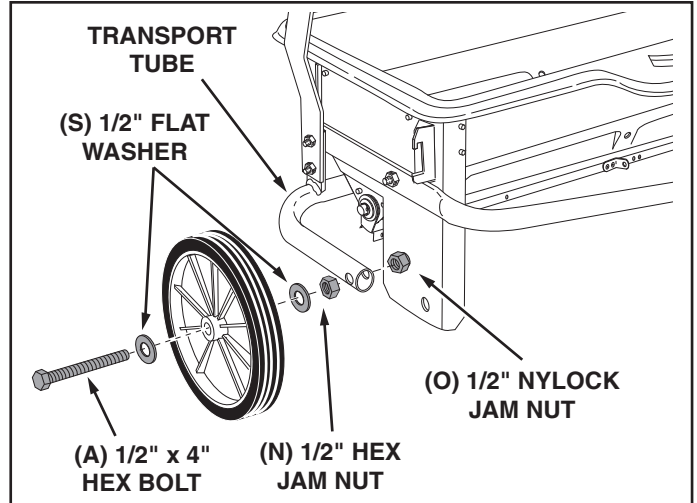

FIGURE 6
12. Assemble a 1/2" flat washer, a wheel, another 1/2" flat washer and then a 1/2" jam nut onto a 1/2" x 4" hex bolt. Tighten the nut finger tight and then back off 1/4 to 1/2 turn. See figure 6.
13. Assemble the bolt and wheel to the transport tube using a 1/2" nylock jam nut. **Tighten** the nut but don't collapse the tube. See figure 6.
15. Assemble a wheel to the other side. See figure 6.